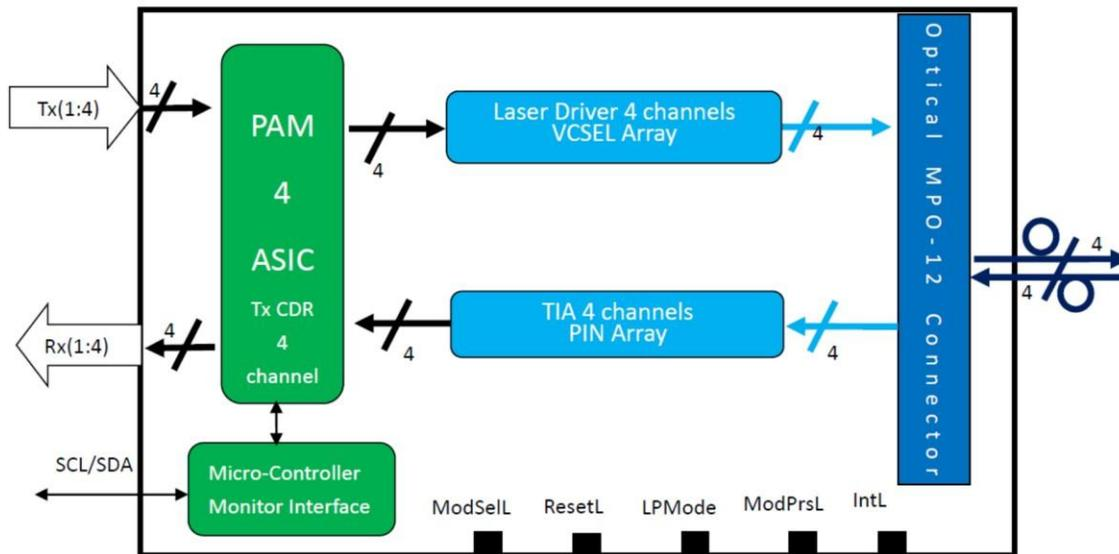

Figure 1. Transceiver Block Diagram
The module incorporates 4 parallel channels, on 850nm Center Wavelength, operating at 50G per channel. The transmitter path incorporates a 4-channel CDR retimer, a quad channel VCSEL drivers together with a VCSEL array. On the receiver path, a photodiode array optics are coupled with an 4- channel CDR retimer. The electrical interface is compliant with IEEE 802.3bs and QSFP56 MSA in the transmitting and receiving directions, and the optical interface is compliant to QSFP56 MSA with MPO-12 APC Optical Connector. Figure 1 shows the functional block diagram of this product.
8. Receiver sensitivity is informative and is defined for a transmitter with a value of SECQ up to 4.5 dB. Receiver sensitivity should meet Equation (1), which is illustrated in Figure 1.